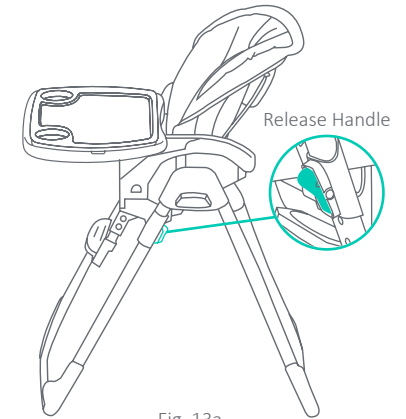
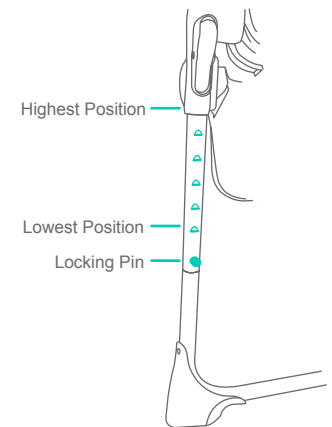

Fig. 13a
Fig. 13b
13) • Squeeze the Release Handles on both sides simultaneously of the Height Adjustment bracket (Fig. 13a) and adjust to the ideal position (Fig. 13b).